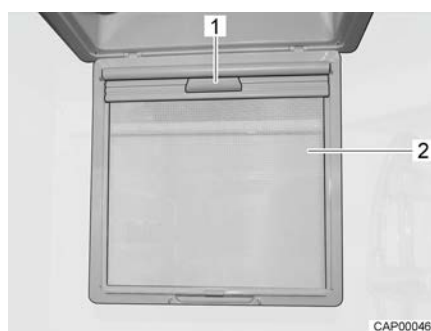

Fig. 74 Blind
- Fold insect screen (Fig. 74,2) downwards.
- Pull the blind by the handle (Fig. 74,1) downwards until it clicks into place on the opposite side.
- Release blind at the handle (Fig. 74,1) and return it slowly to its initial position.
- Swing insect screen (Fig. 74,2) upwards until it latches in place.